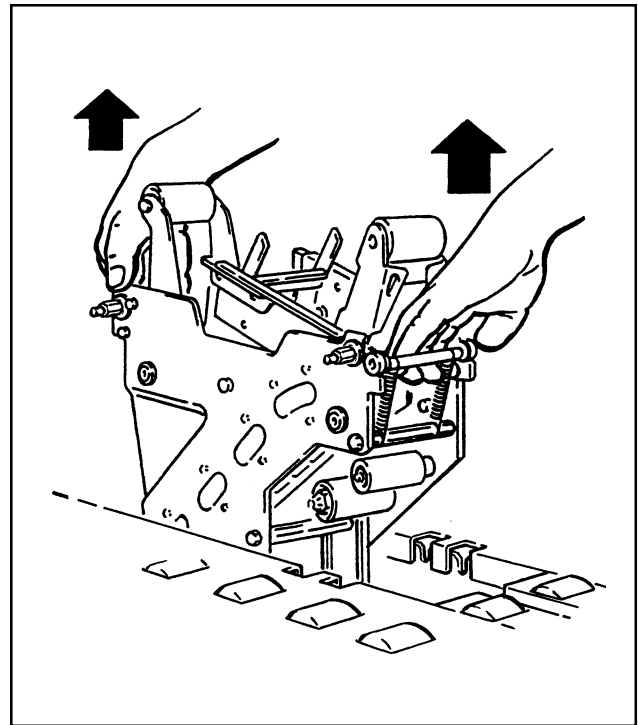

Figure 6-2 – Remove Lower Taping Head
4. Lift the lower taping head as shown in Figure 6-2 and remove it from the machine bed.